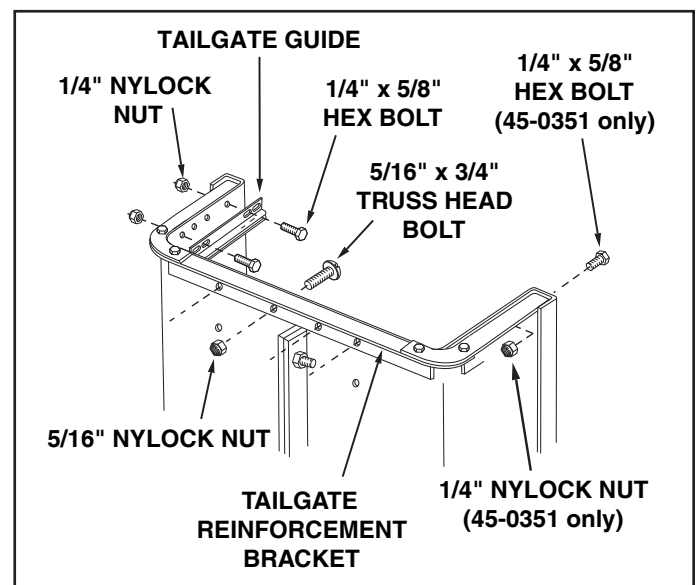
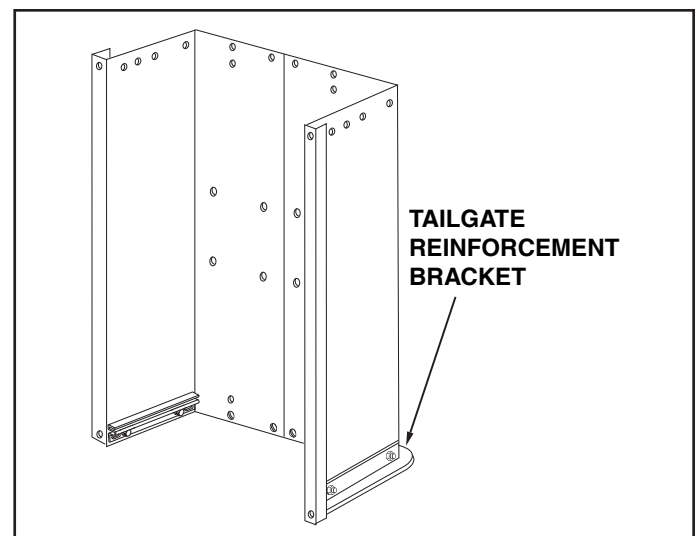

FIGURE 2
FIGURE 3
5. Position the tailgate reinforcement bracket on outside of cart as shown in figure 3. Assemble to the bottom of the cart body using four 5/16" x 3/4" truss head bolts and 5/16" nylock nuts. **Do not tighten yet.** See figure 2.
6. Position the tailgate guides on the inside of the cart bodies with guide channels to the front. Assemble using four 1/4" x 5/8" hex bolts and 1/4" nylock nuts. **Do not tighten yet.** See figure 2.
7. **(45-0351 only)** Fasten the ends of the tailgate reinforcement bracket to the top flange of the cart using two 1/4" x 5/8" bolts and 1/4" nylock nuts. See figure 2.
9. Carefully turn the cart over so that the tailgate reinforcement bracket is on the bottom. See figure 3.